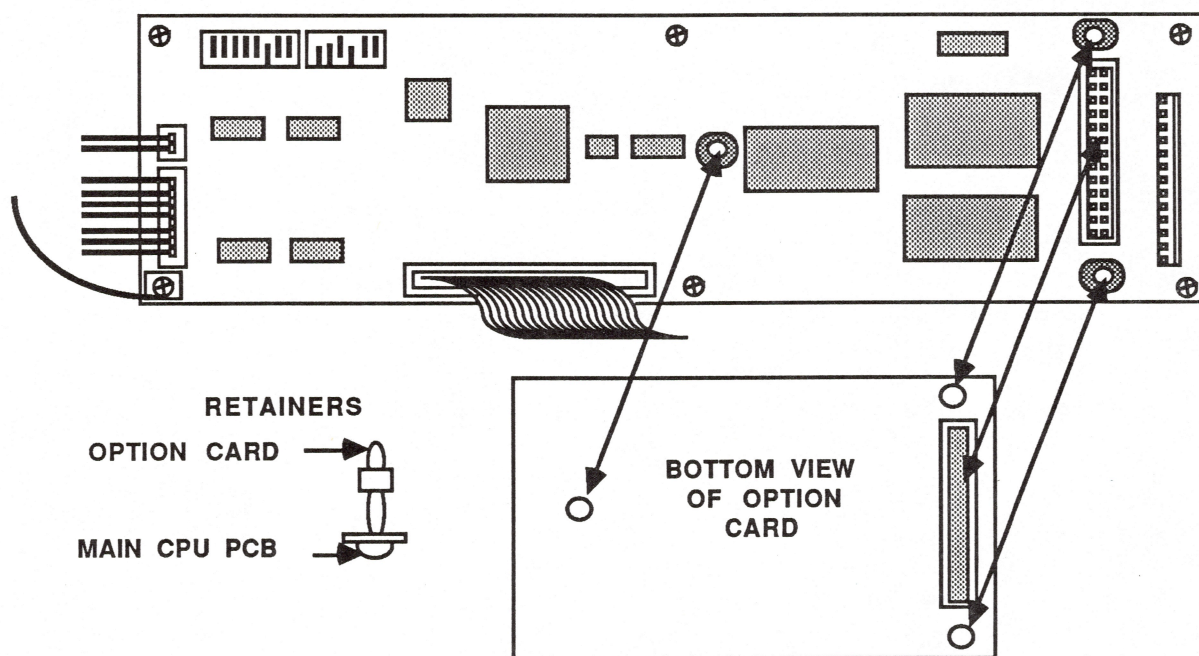

FIGURE 3
3. Squeeze the plastic retainers (see Figure 3) together one at a time with the pliers and gently lift the corners of the option card.